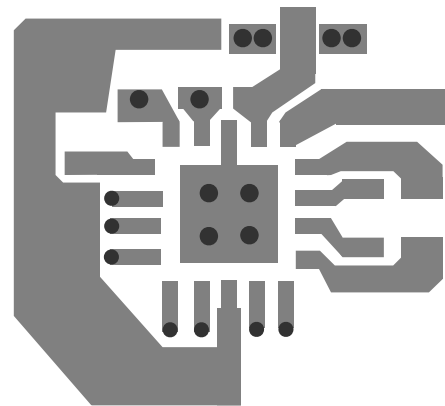

Figure 3 — Layer 1
- Figure 3 shows only the vias that should be connected to the ground plane with multiple vias.